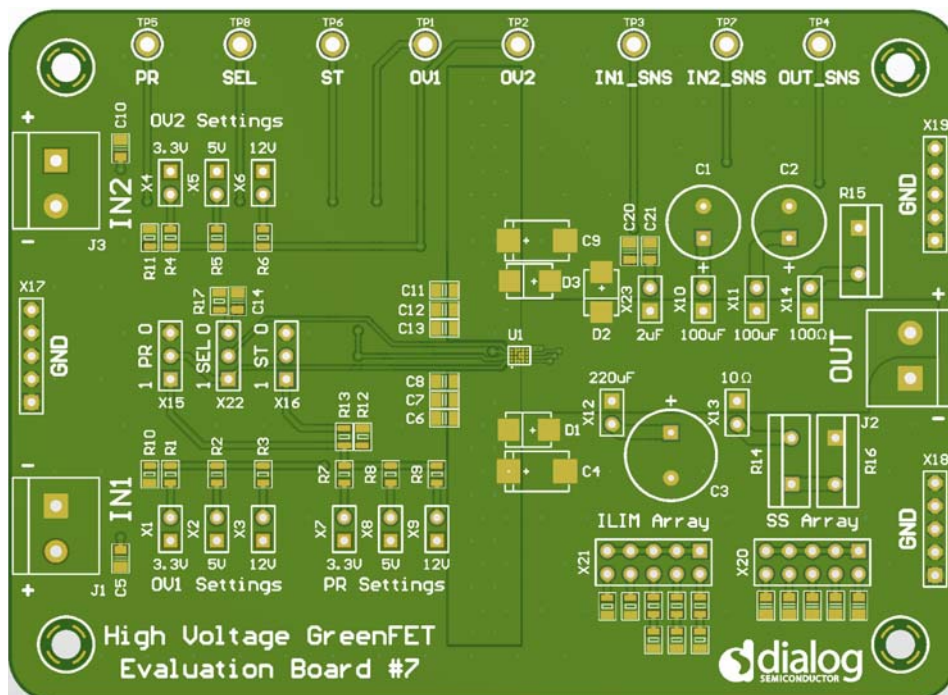

Figure 28. SLG59H1403C Evaluation Board
1. Since the IN[1,2] and OUT pins dissipate most of the heat generated during high-load current operation, it is highly recommended to make power traces as short, direct, and wide as possible. A good practice is to make power traces with an absolute minimum widths of 15 mils (0.381 mm) per Ampere. A representative layout, shown in Figure 28, illustrates proper techniques for heat to transfer as efficiently as possible out of the device;
A High Voltage GreenFET Evaluation Board for SLG59H1403C is designed according to the statements above and is illustrated on Figure 28. Please note that evaluation board has IN[1,2]\_Sense and OUT\_Sense pads. They cannot carry high currents and dedicated only for  $RDS_{ON[1,2]}$  evaluation.